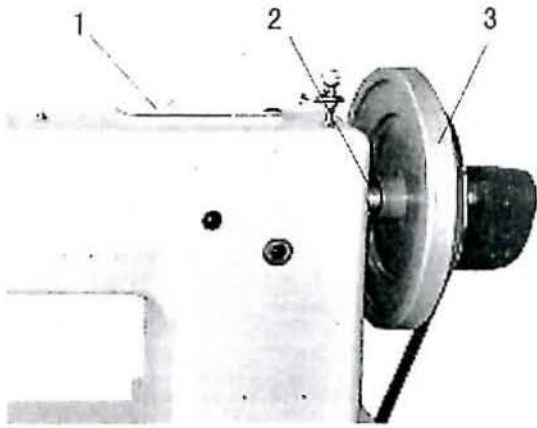

Fig.33
- 2) Replacement of the connection belt when damaged. (Figs. 33 & 34)